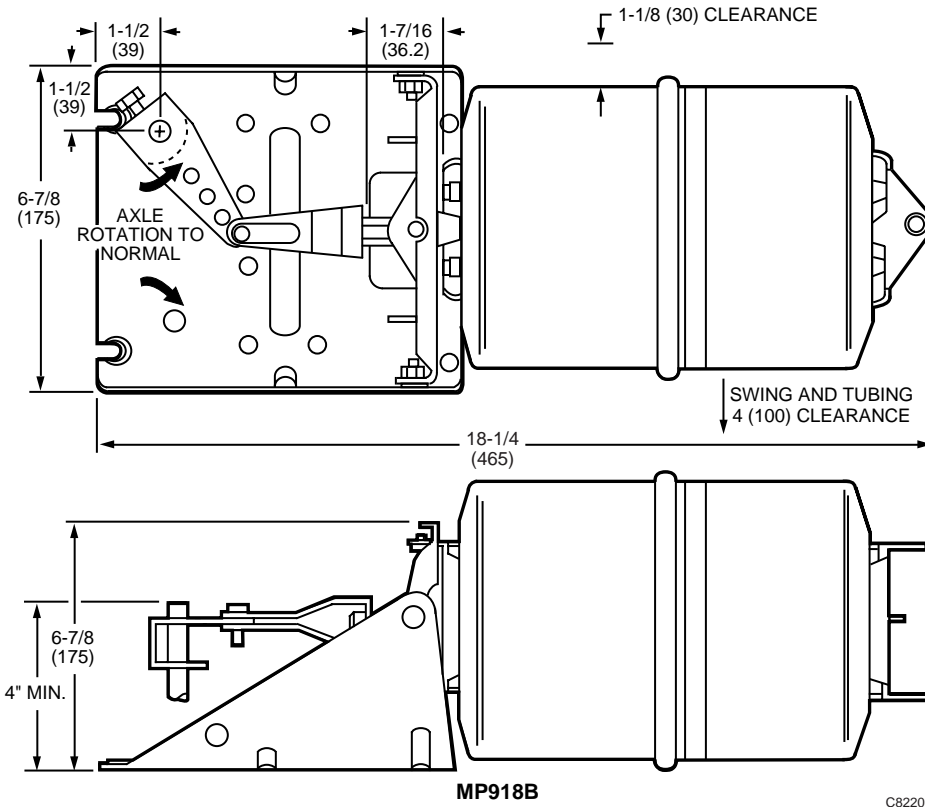

Fig 1. External Mounting Dimensions in Inches (Millimeters).
- ❶ For external mounting dimensions, see Figure 1.